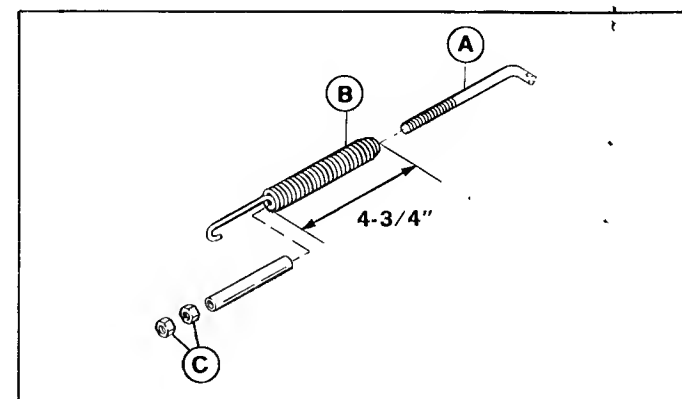

Figure 21. PTO, 36" Mower
2. When the mower PTO lever is engaged, the spring length should measure 4-3/4 inch as shown in figure 21 or 22, next page. To adjust the 36" mower, go to step 3. To adjust 42" mower, go to step 4.